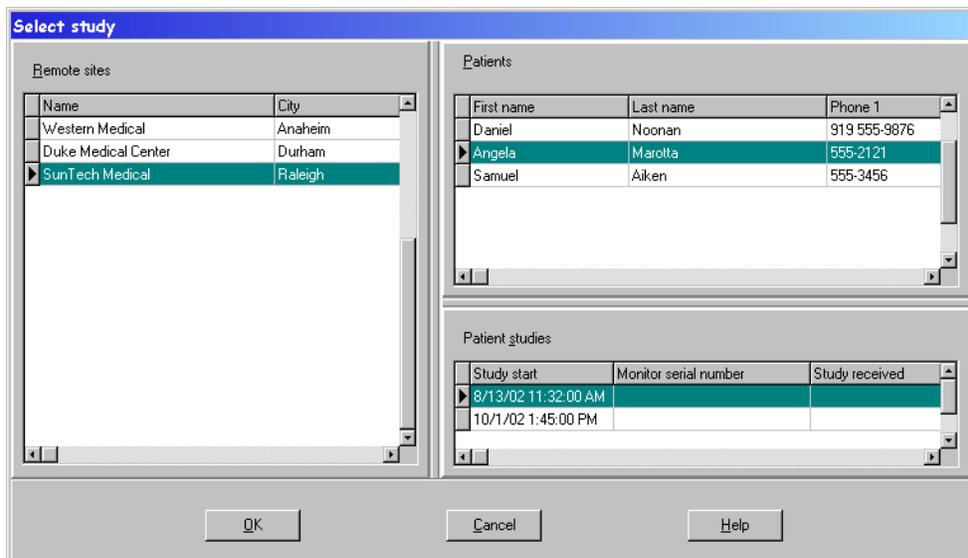

Fig.18. Select study dialog box
1. On the menu, select **File**, and then **Open Data**, or from the toolbar, select **Open**. The **Select Study** dialog box appears (Fig. 18).